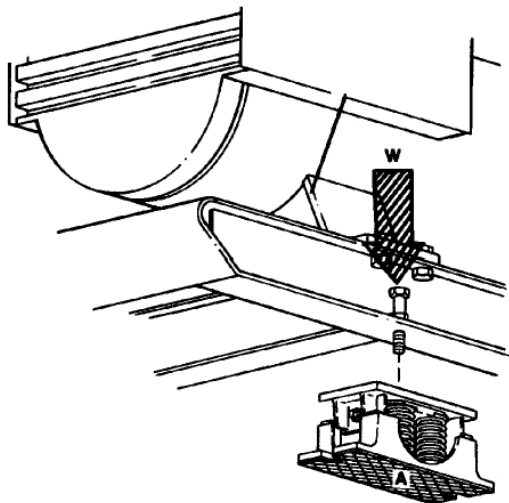

Figure 34
The area of load-bearing support is adjusted to accommodate surface material. To determine pressure (P) exerted by the generator set, divide total weight (W) by total surface area (A) of the rails, pads, or vibration mounts. Refer to Figure 34.